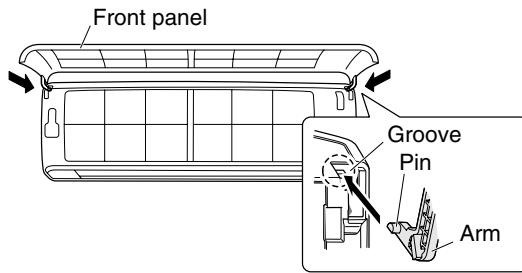

Fig. 11
- (1) Insert the bottom of the grille into the flap, with the flap at a more-or-less horizontal position.
- (2) While aligning both edges of the grille with the frame, move the panel horizontally and insert the top and bottom into the frame.
- (3) Press the air discharge outlet firmly with your hand to ensure no gap exists between the main unit and grille.
- (4) Tighten the 2 screws and close the screw covers. Also tighten the 3 screws of the frame.
- (5) Grasp the sections near the front panel arms on both sides, hold the front panel so that it is nearly horizontal, bring the arm shafts into contact with the top of the grooves on the right and left sides of the air conditioner, and then push firmly until the arm shafts click into place. (Fig. 11)